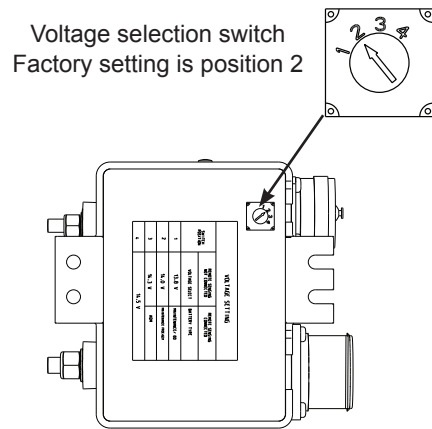

Figure 4: Voltage Selection Switch
1. Before installing regulator, turn it over and make sure voltage selection switch on back of regulator is set for type of battery used. If necessary, change voltage selection switch setting. See Figure 4 and Table 1 for setting options. Factory setting is position 2.